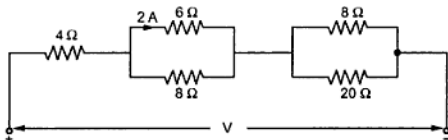

Fig. 1.83
24. The current in the 6 Ω resistance of the network shown in the Fig. 1.83 is 2 A. Determine the currents in all the other resistances and the supply voltage V .